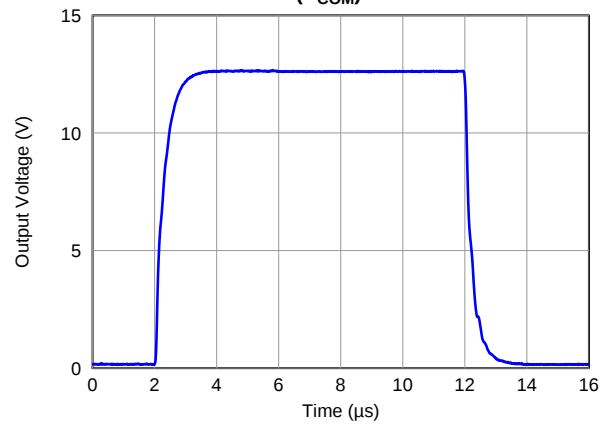

Figure 19.
(1) The BUF08630 V_{COM} DAC limits can be programmed. These default limits apply if the device is not programmed. See the Programmable Vcom Limits section.
(2) See Figure 19, Large-Signal Step Response, V_{COM} .
(3) Observe maximum power dissipation.
(4) The V_{COM} output voltage is limited to codes 0 to 960 because of the common-mode input range of the V_{COM} amplifier. This limitation is for V_{COM} only; it does not affect DAC OUT1 to 8.